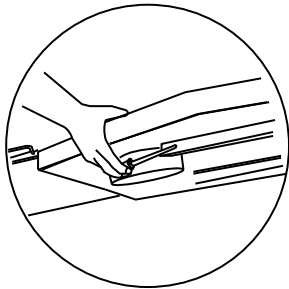

Fig. 2
2. Press the height adjustment lever in order to release the opening of the legs (fig. 2).